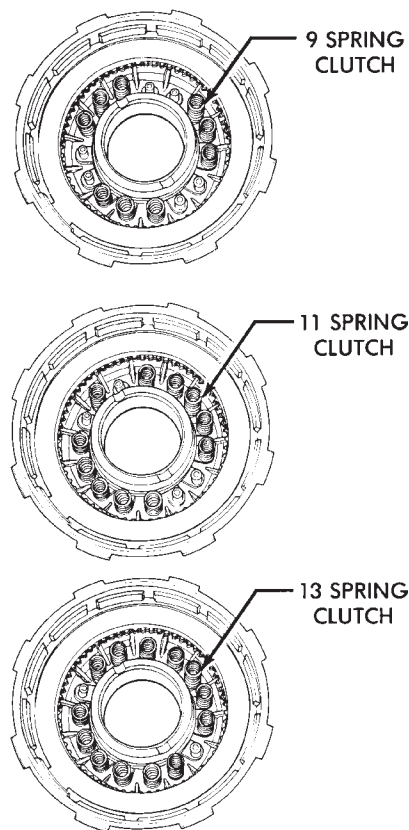

Fig. 64 Front Clutch Spring Location
(5) Install and position clutch piston springs as shown in Figure 64.